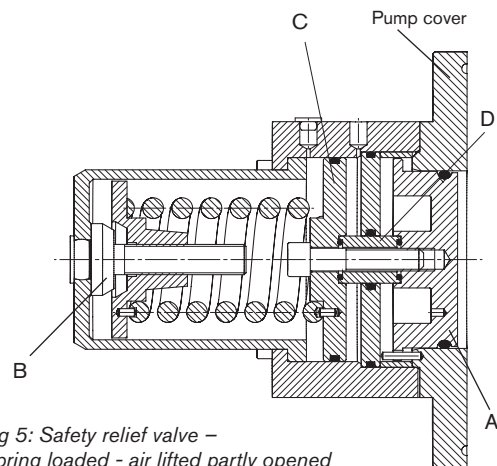

Fig 5: Safety relief valve –
Fig. 5 shows the valve partly opened. The medium pressure inside the rotor case has forced the valve head (A) to the left against the force of the spring via the distance sleeve and the CIP/SIP piston valve.